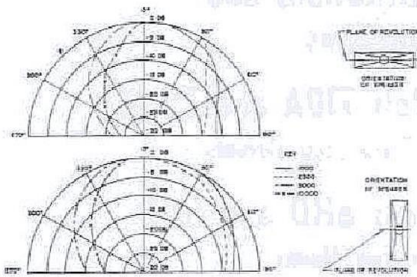

Fig. 3 - Polar Response
**HORNS**—The Electro-Voice Models 6HD and 8HD are nonresonant, molded fiberglass exponential diffraction type horns. Operating on the principle that when a sound wave passes through a slit, it is diffused at right angles to the long axis of the slit, the Hoodwin diffraction horns possess an unusually broad polar dispersion pattern. (See Fig. 3 "Polar Response.")